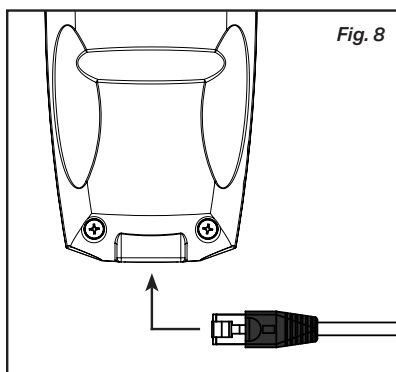

Fig. 8
2. Plug the **Black RJ-45** connector into the rear RJ-45 port on the **Typhoon Handheld controller** (see Fig. 8). Make sure it clicks securely into place.